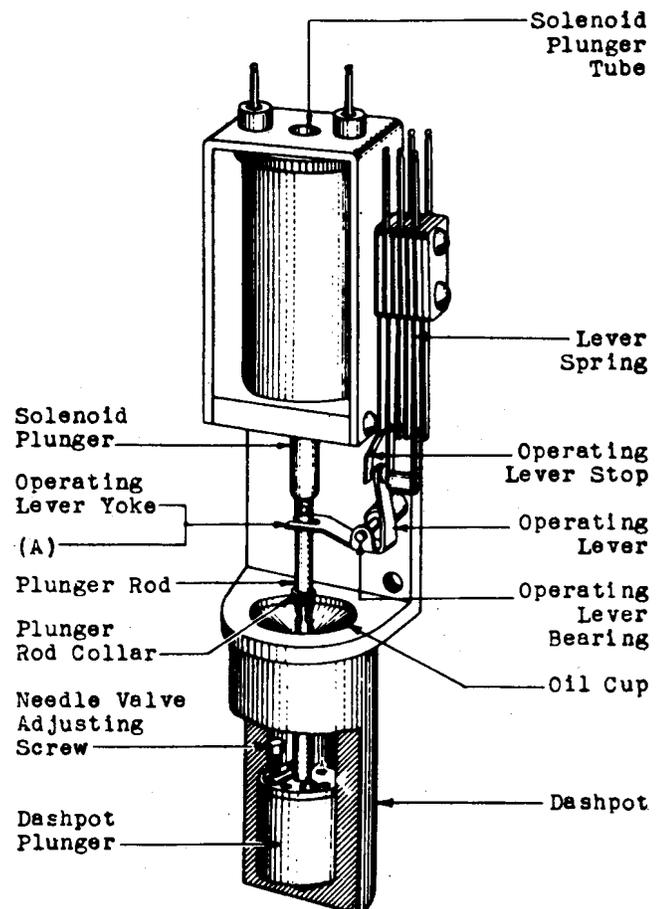

Fig. 2 - Internally Adjusted Dashpot Relay
- (b) Internally Adjusted - Fig. 2 (A) - The operating lever yoke shall clear the plunger rod on both sides and shall operate without bind. Gauge by eye and feel.